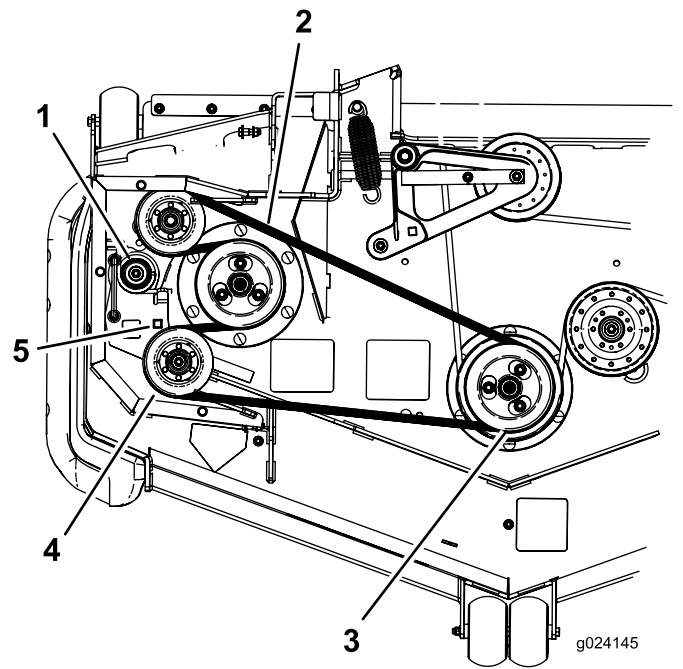

Figure 71
7. Use a ratchet in the square hole in the idler arm to remove tension on the idler spring (Figure 71).